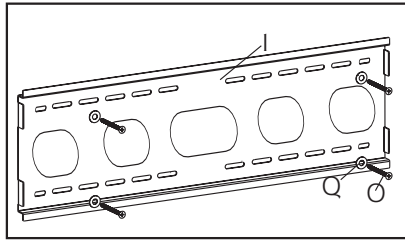

Fig 2c
**Brick, Concrete and Stone wall(Fig 2c):**